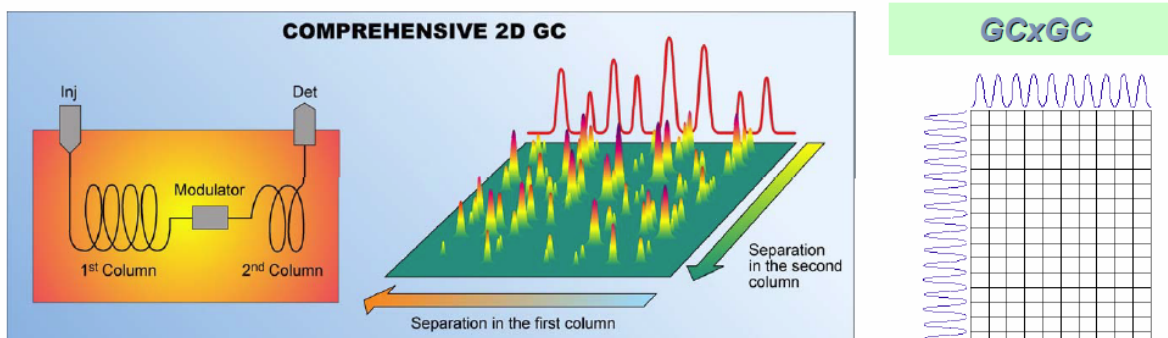

Figure 4 Comprehensive two-dimensional GC separation. Reprinted from Cavagnino D.: 4th Thermo Scientific High-Resolution GC/MS meeting on POPs, Barcelona 2010.
4. Finally, what is left are the **comprehensive two-dimensional GC×GC methods**. This is a special case of two-dimensional methods and the rules for a method to be in this elite group are: a) ALL components of the sample are subjected to two independent separations, b) equal percentages of all sample components pass through both columns and eventually reach the detector, c) separation (resolution) achieved in the first dimension is practically maintained (in practice the loss of resolution from the first dimension should not exceed 10%). Comprehensive GC×GC is illustrated in **Figure 4**.
- C) If we do comprehensive GC×GC as shown in **Figure 4** we have the first column with a peak capacity of 1000. The second column has a significantly smaller capacity because the separation must be very fast, so let's say the peak capacity is 30. Then we have a peak capacity of $1000 \times 30 = 30\,000$. Of course, this is a theoretical number. Real peak capacities are lower. Sometimes they are unnecessarily lowered by sub-optimal experimental conditions such as too long modulation periods.